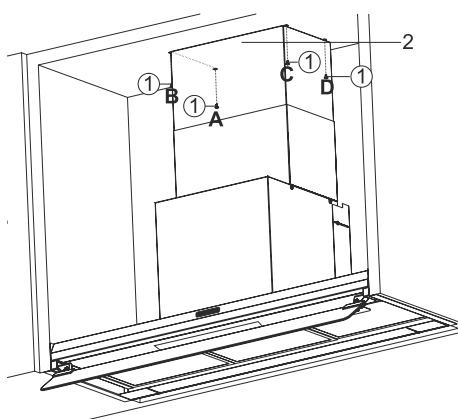

Fig. 17
- 7.** Pull the interior flue up to the top section of the cabin (Fig. 17).
Using the 4 connection screws through the A, B, C, D points to the kitchen cabin (Fig. 17).